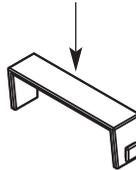
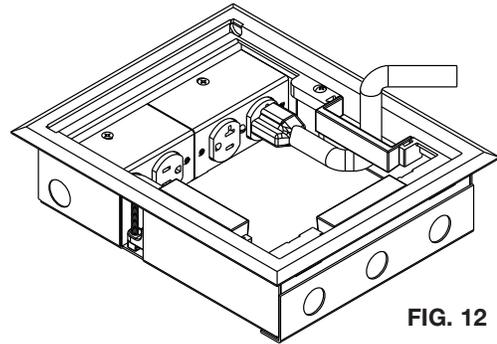

FIG. 11
FIG. 12
Step 10 When the box is not in service, the wire retainer should be installed (textured side up) to block off the cable exit. (See Fig. 11.) Otherwise, any exiting cables should be routed through the wire retainer prior to closing the lid. (See Fig. 12.)